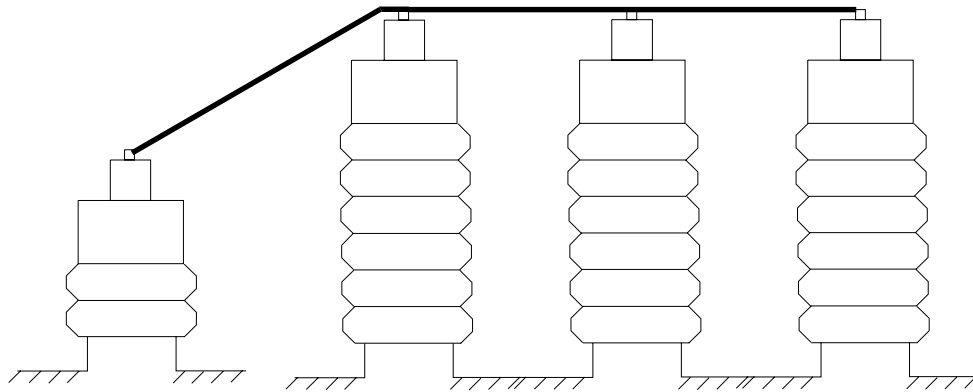

FIGURE 2-2 SHORTING THE LOW VOLTAGE BUSHING
6. Short the low voltage bushings as shown in Figure 2-2.